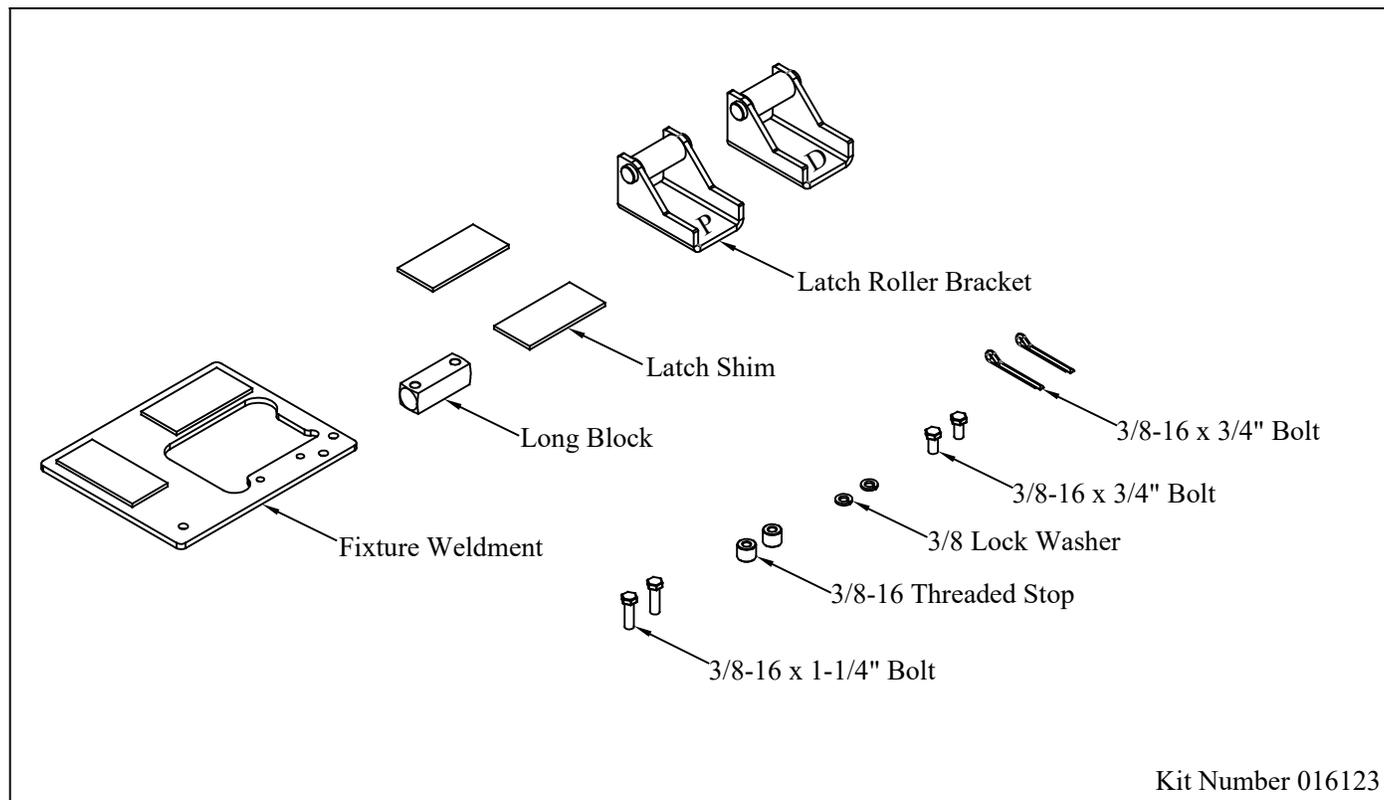

Figure 1: Replacement Parts and Weld Fixture Identification
1. Verify repair kit (Figure 1 and Table 1).